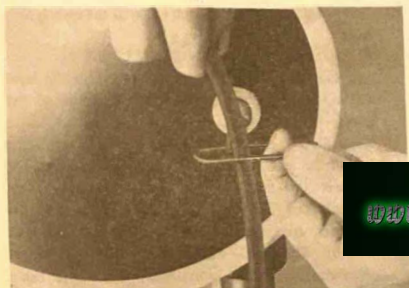

Fig. 33
17. Thread the front brake wire through the wire holder attached to the number plate. (Fig. 33)